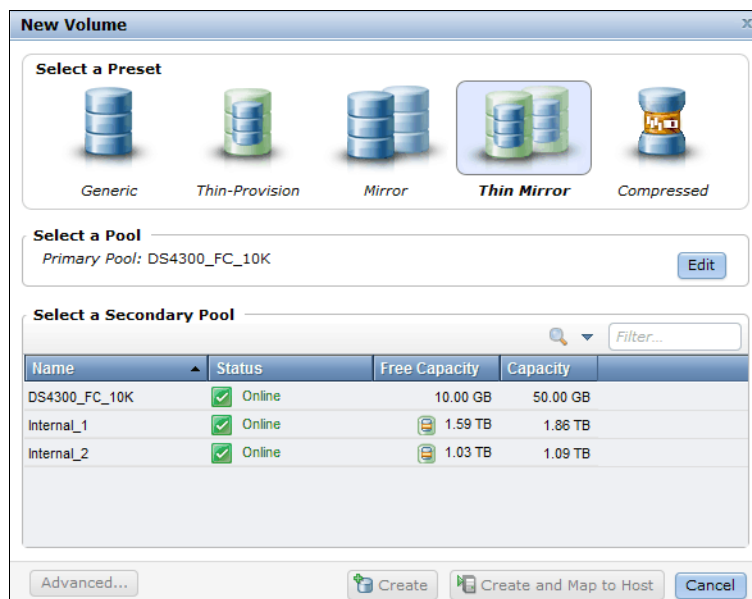

Figure 6-16 Thin Mirror - select the secondary pool
2. Select the primary pool by clicking it and the view changes to the second pool (Figure 6-16).